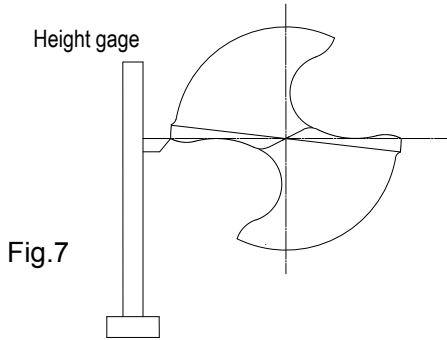

Fig.7
- As shown in **fig.7**, set the drill phase so that the line connecting the shoulder of both sides will be horizontal by using a device such as height gage.